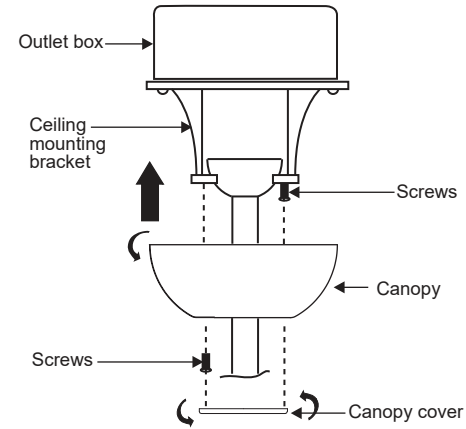

Fig. 13
Step 2. Slide the canopy up to the mounting bracket and place one of the key hole slots over the mounting screw on the mounting bracket. Rotate the canopy until the screw head locks in place at the narrow section of the key hole. See figure 13.
**NOTE:** Adjust the canopy screws as necessary until the canopy and canopy cover are snug. (Fig. 13)